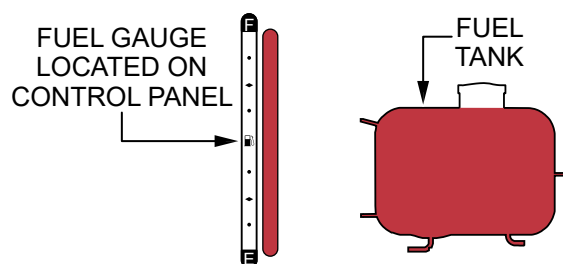

Figure 19. Full Fuel Tank
1. **NEVER overfill the fuel tank** — It is important to observe the **fuel gauge** (Figure 19) while filling the fuel tank. **DO NOT** wait for fuel to rise in the filler neck.